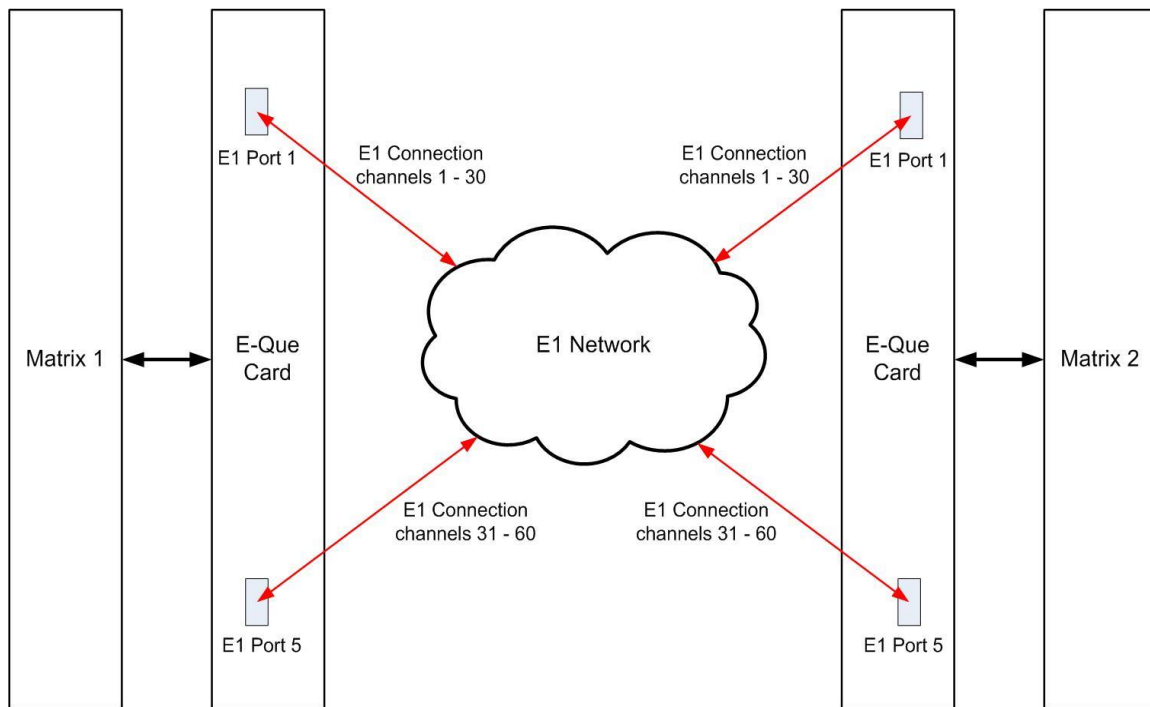

**Figure 31: Matrix to Matrix direct E1 Trunking**
**Figure 31: Matrix to Matrix direct E1 Trunking** shows E1 trunking using a direct connection between the matrices using a CAT5 crossover cable. The E-QUE interface should be set to **E1 Direct** in EHX hardware setup.